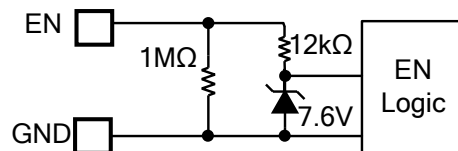

Figure 2: Zener Diode between EN and GND
The MP5402M has enable control (EN). Pulling EN high enables the IC; pulling EN low disables the IC. Connect EN to V_{IN} through a resistor for automatic start-up. An internal 1M Ω resistor from EN to GND allows EN to float to shut down the IC. EN is clamped internally using a 7.6V series Zener diode (see Figure 2). Connect EN through a pull-up resistor to any voltage